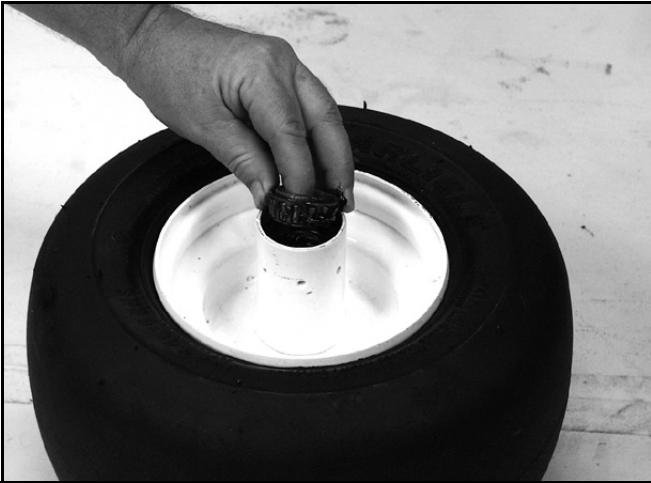

Figure 105
10. Pack the bearing with grease and install it on the race (Figure 105).